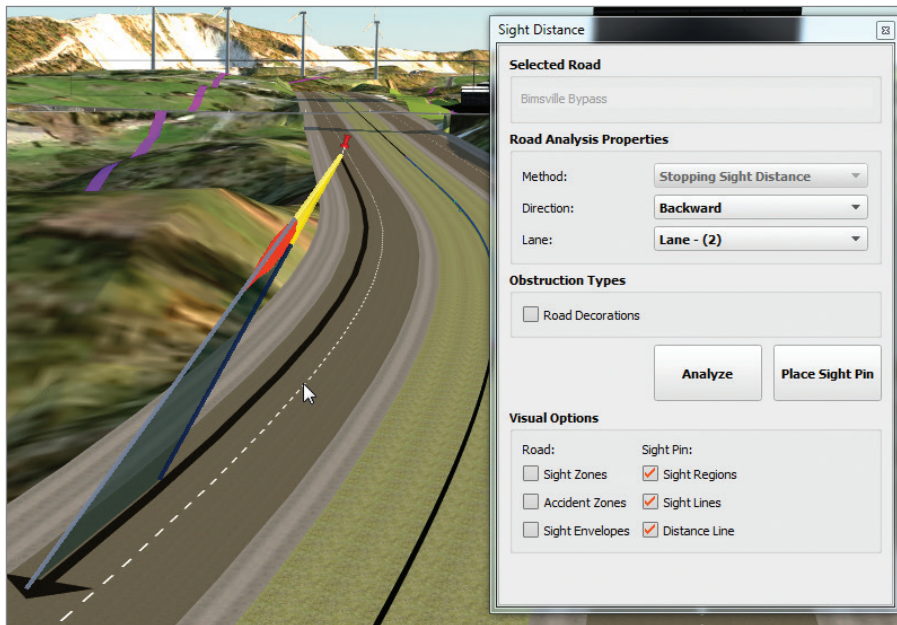

FIGURE 3.17 Analyzing sight distance using a sight pin
14. Zoom in and study the graphics representing the sight pin analysis, as shown in Figure 3.17.